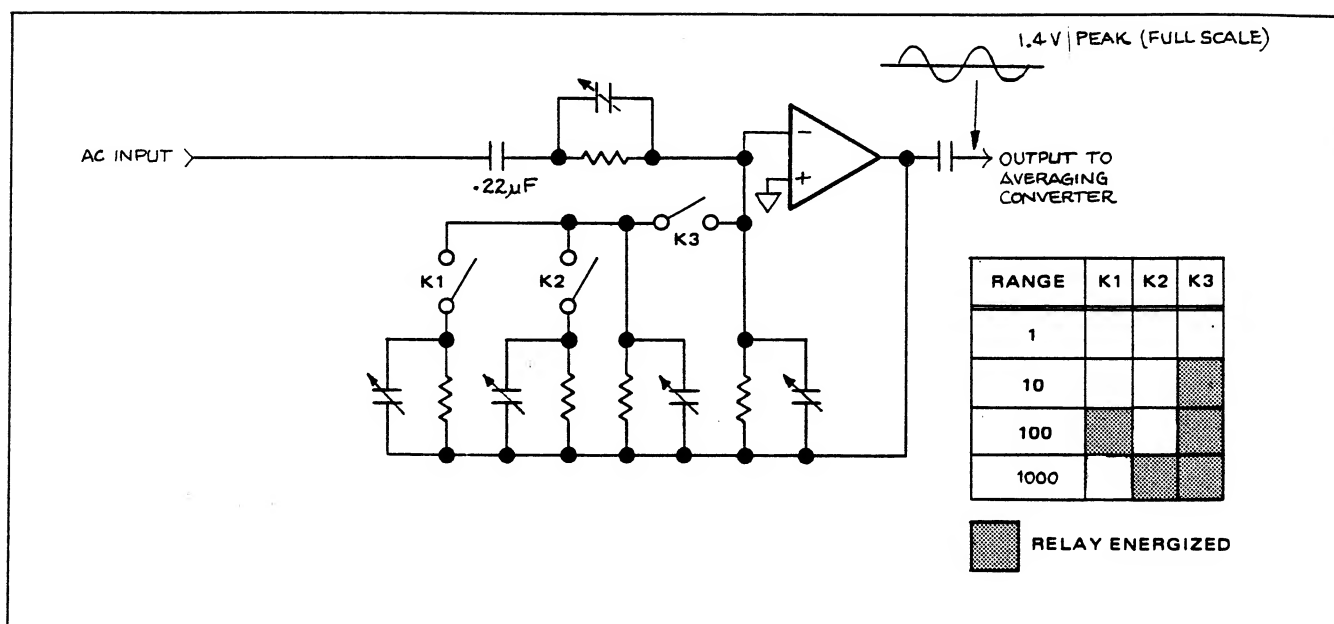

Figure 5.21 - Scaling Amplifier
5.3.5.9.2 Scaling Amplifier. The Scaling Amplifier (Figure 5.21) is configured as an AC coupled inverting operational amplifier. The input signal is routed through C17 to the range switching network. The range switching circuitry provides signal attenuation in the 10 volt, 100 volt and 1000 volt ranges. The table in Figure 5.21 details the relay closures for each range.